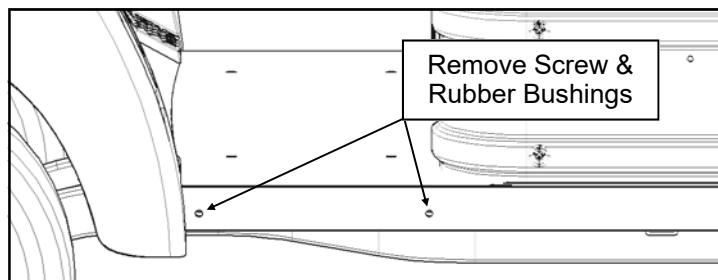

Figure 1.2: Runner panel screws and bushings
- 1.2 Remove the two screws and rubber bushings from the front of the runner panels on both sides of the vehicle. (**Figure 1.2**).